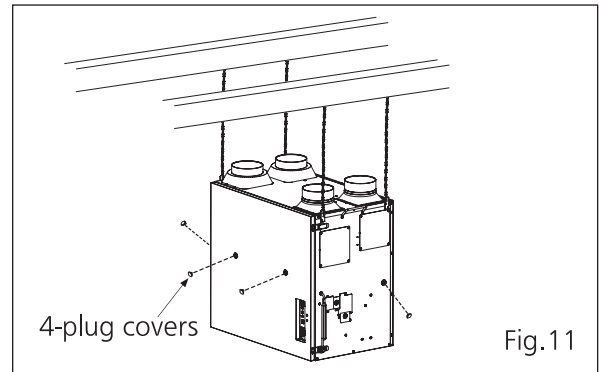

Fig.11
4. Install plug covers into plugs on the frame. (Fig.11)